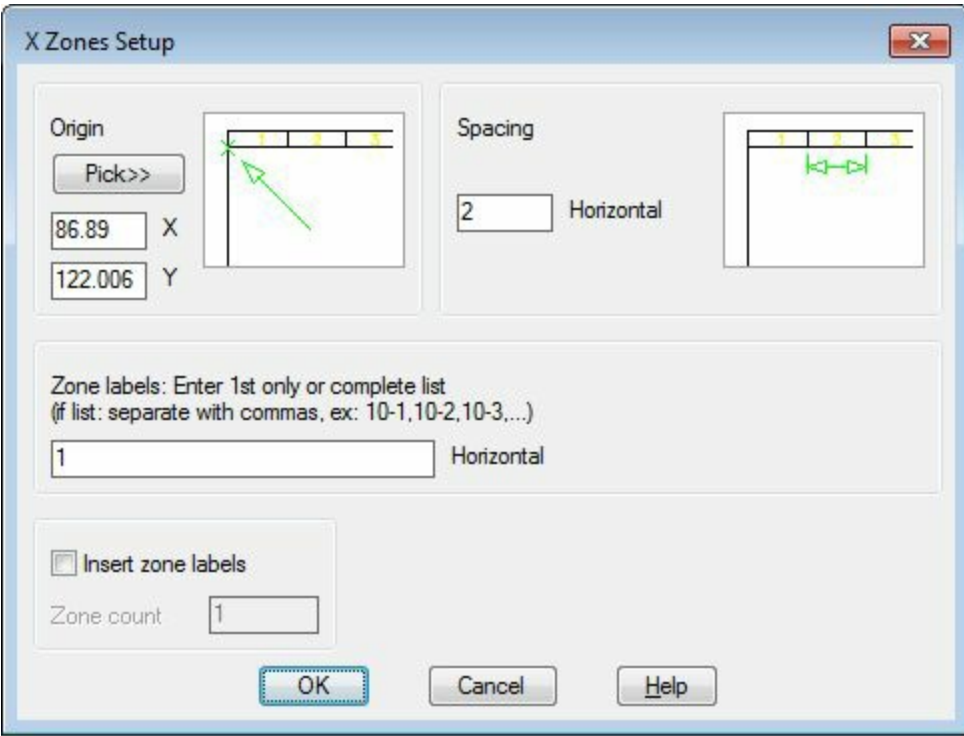

Figure-21. X Zones Setup dialog box
- Click on the **X Zones Setup** tool from the **Ladder** drop-down in the **Insert Wires/Wire Numbers** panel in the **Ribbon**. The **X Zones Setup** dialog box will be displayed as shown in Figure-21.